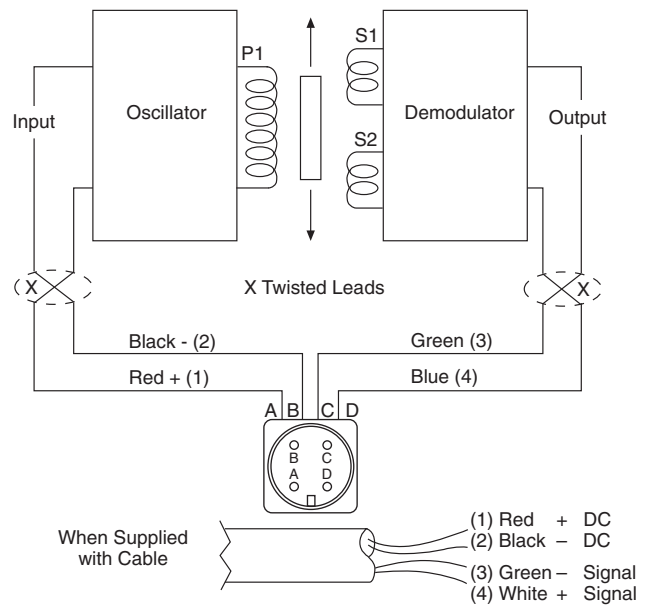

Figure 9
3. Observing correct polarity, connect the positive (+) input lead to Pin A and the negative (-) input lead to Pin B. (See Figure 9)
4. Connect the positive (+) output lead to Pin D and the negative (-) output lead to Pin C. (See Figure 9)
2. Connect a voltmeter to Pins C and D (See Figure 9)